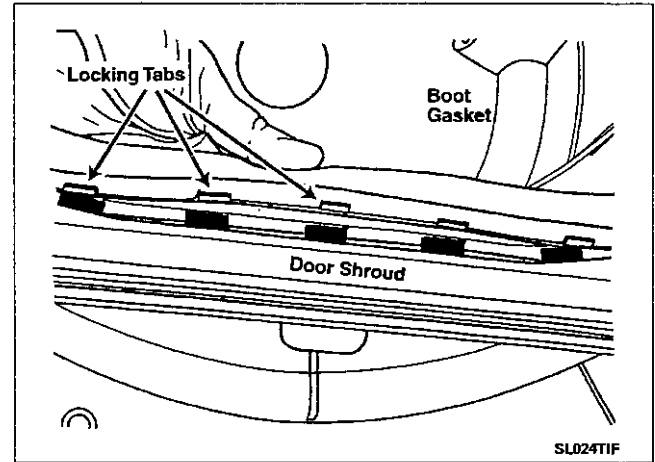

Figure 5-6
6. Unsnap the boot gasket from around the inside perimeter of the door opening by pulling outward on the sealing lip of the gasket (*Figure 5-6*).
6. Unsnap the boot gasket from around the inside perimeter of the door opening by pulling outward on the sealing lip of the gasket (Figure 5-6).